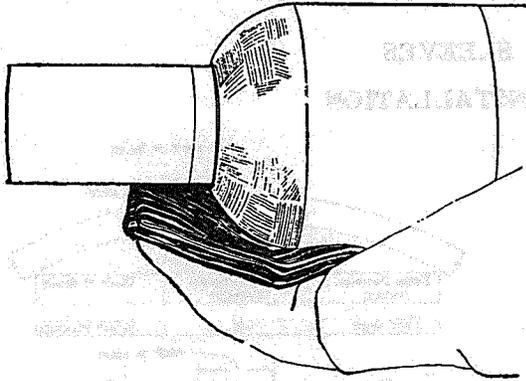

Figure 23-1 Holding The Catch Cloth
- (a) 12.04 -- add Figs. 23-1 and 23-2.